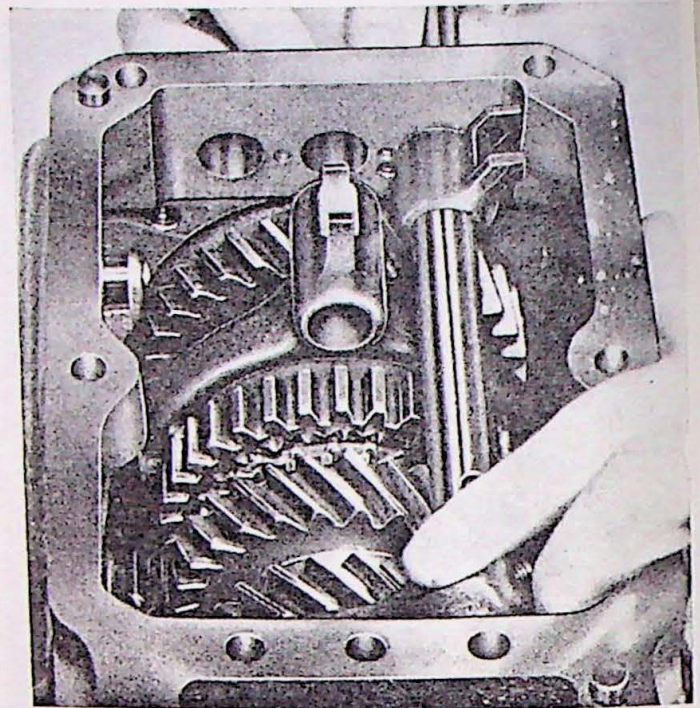

Fig. 3-29. Fitting the shift forks and rails
8. Fit shift rails and forks. Place both forks in position before fitting the rails, see Fig. 3-29. Move over the shift fork (37) to 1st speed position when fitting the pin. Use a new pin. Fit the cover over the shift rails.